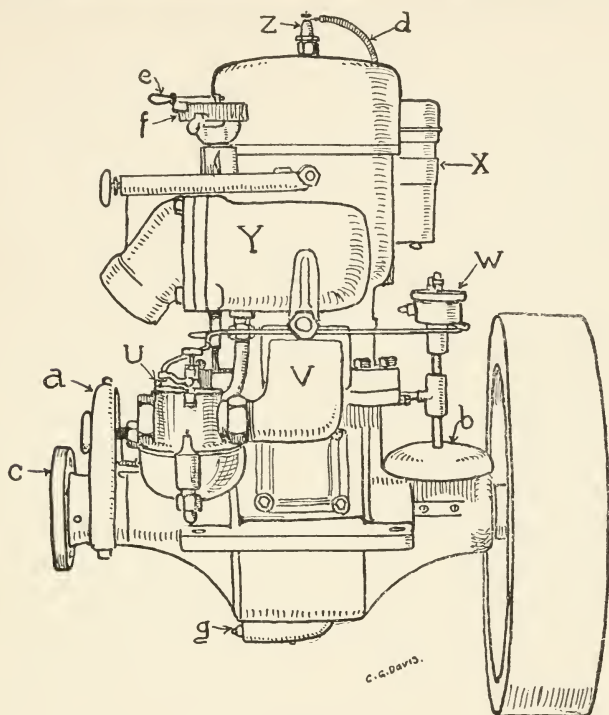

Fig. 2
The difference between the make-and-break engine and the jump-spark engine is shown in the accompanying second illustration (Fig. 2). Here there is no small shaft jumping up and down on the front of the engine. Instead there is a bevel gear (b) which, in well-made engines, is encased in metal covers so that nothing can fall in between the teeth of the gears and break them. This bevel gear rotates a little rod on the top of which is the timer. This is a wheel or finger revolving in the rubber cup-like box (W). At the proper time, in relation to the stroke of the piston, this timer comes in contact with a metal point that sticks through this rubber box. To this point on the outside the electric wire is made fast so that the electricity, at the second of contact, has a complete circuit to flow around. The action is like turning on a faucet in a house which starts the water flowing in the pipes.